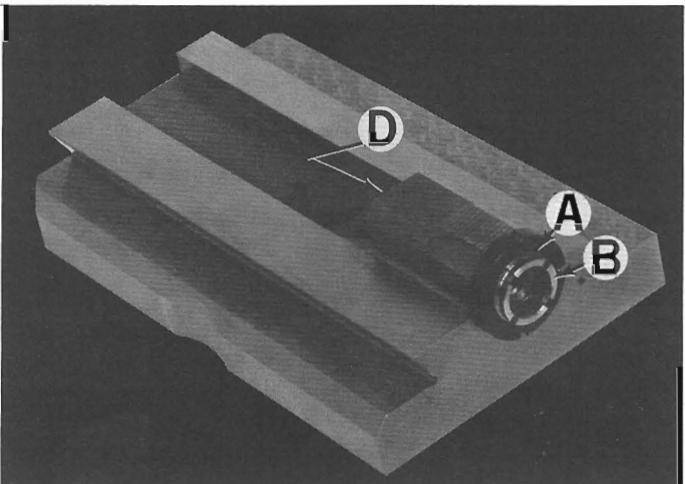

Figure 156 — Adjustable Feed Screw Nut
- (A). Separate slides by moving top slide to rear.
- (B). Loosen lock nut "A", Figure 156, and unscrew half nut "B", Figure 156.
- (C). Loosen set screw "C", Figure 157, to remove half nut "D", Figure 156.
1. Replace feed screw half nut "D", Figure 156, and tighten set screw "C", Figure 157.
2. Thread half nut "B", Figure 156, into casting leaving approximately $11/32"$ projection. Replace lock nut "A" but do not tighten.